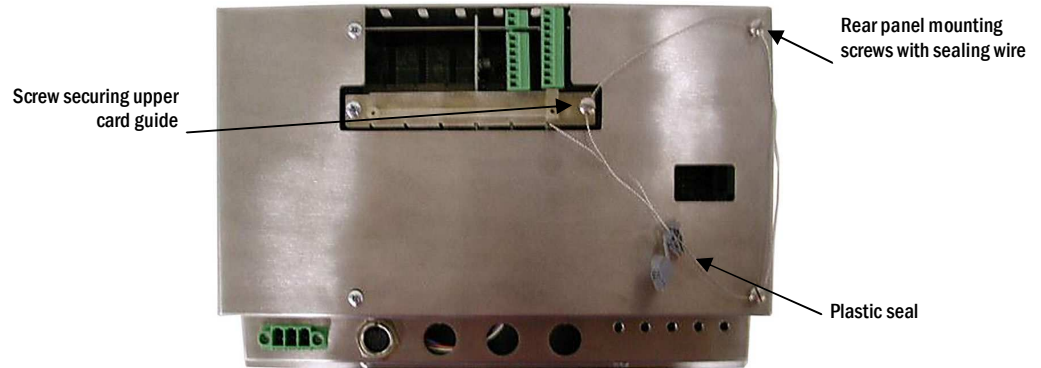

Figure 2-76: 3-Point Sealing, Panel Enclosure Rear Cover
4. Finally, the back panel of the enclosure is sealed. Three sealing screws are indicated in Figure 2-76 – two secure the panel in place on its stand-offs and one secures one end of the upper card guide.